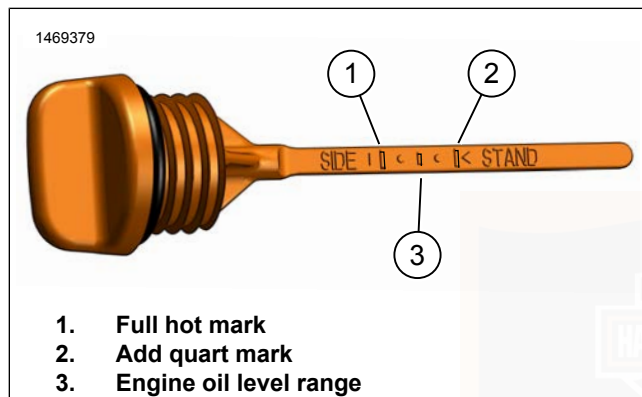

Figure 56. Engine Oil Dipstick (Vehicle Sidestand Gauge)
- e. See Figure 56. Check oil level range (3). Oil level must register between full hot (1) and add quart (2) marks on the dipstick.
16. See Figure 56. Add only enough oil to bring the level to the add quart mark (2).
18. If oil level is at or below the add quart mark, add only enough oil to bring the level to the full hot mark (1). Do not overfill.